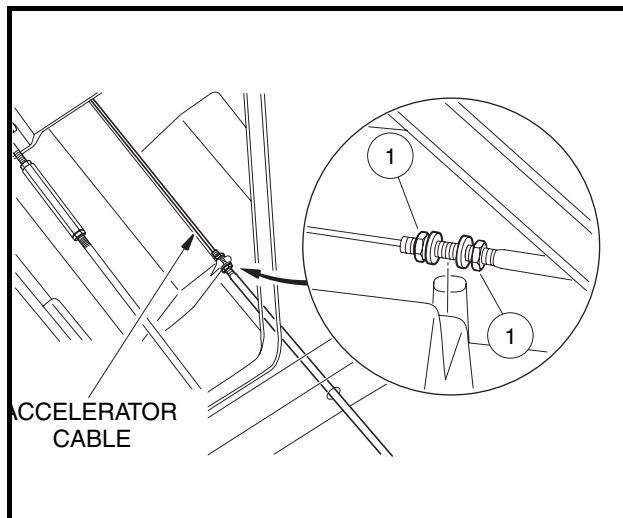

Figure 16-50 Connect Cable
25. Insert the accelerator cable through the hole in the frame and connect the accelerator cable to the pedal group as described in **GCOR, Section 5, Page 5-3** Position the accelerator cable in the mounting brackets in the vehicle base and adjust mounting nuts (1) to remove all slack in the wire portion of the cable. Tighten mounting nuts to 23 in-lb (2.6 N·m) (**Figure 16-50, Page 16-20**).